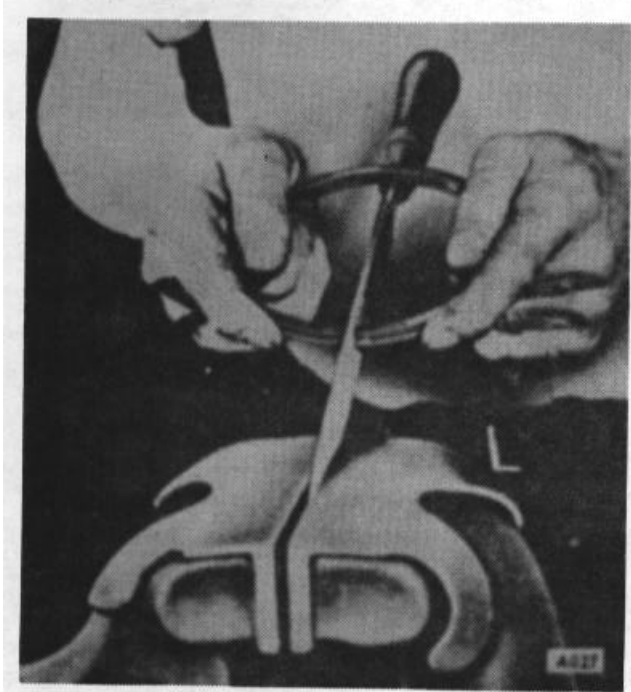

Figure 26.
3. Check the gap between the ends of the ring with a feeler gauge in accordance with specifications. If any of the rings do not have enough gap, they may be filed by clamping the file in a vise and holding the ends against opposite sides of the file as shown in Figure 26.